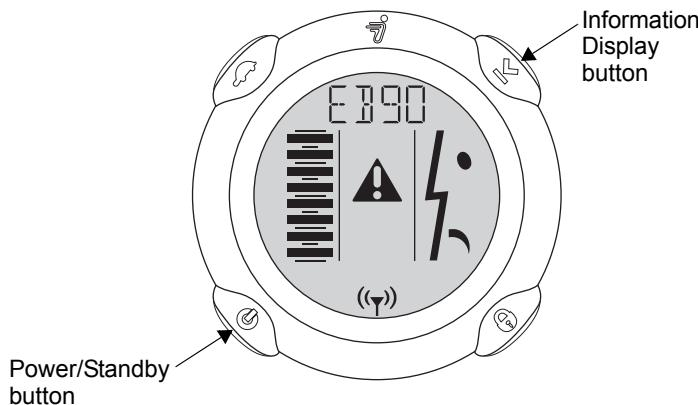

Figure 8. InfoKey Controller Display During a Training Safety Shutdown
5. The third person may then press and hold both the Information Display button and the Power/Standby button simultaneously until the Safety Shutdown initiates. **Figure 8** shows the InfoKey Controller display during a training Safety Shutdown.